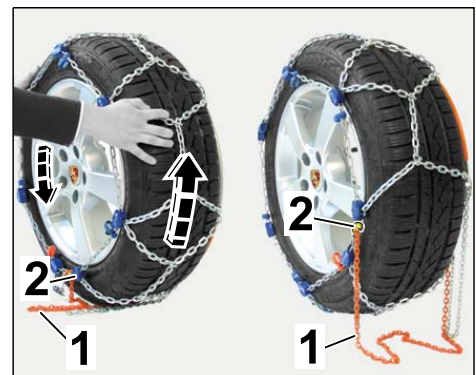

Figure 7
2.2.1 Drive forward or back to turn the wheel by approx. 1/4 (⇒ *Figure 7 -Arrows-*).
The tensioning chain (⇒ *Figure 7 -1-*) must **NOT** be under the wheel.